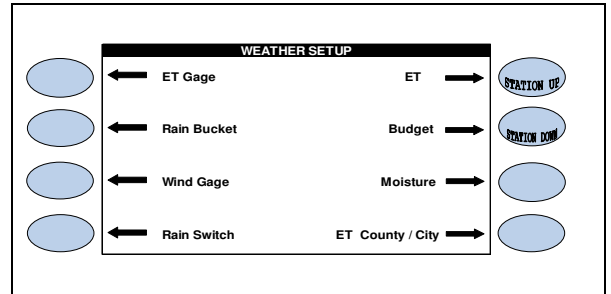

**Figure 9**
**Crop Coefficients In Use:** The default setting is set to NO. By changing it to YES the Screen will open up the Month and Program Columns (Figure 9).